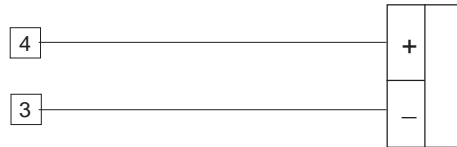

Fig. 5.4
- a) Connect the instrument to the calibrator as shown in Fig. 5.4.
- a) Set 10,000 V on the calibrator (see Fig. 5.4).